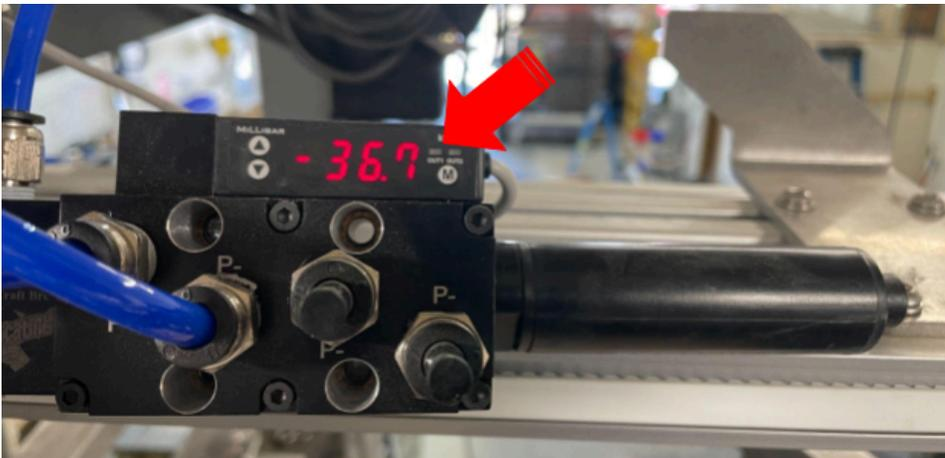

Fig. 10: Vacuum Generator sensor "OUT1" light off
- a. Turn vacuum back on, with no tier sheet at the vacuum cups. The "OUT1" light (Fig. 10) should NOT come on as you should NOT achieve vacuum when the cups are open.